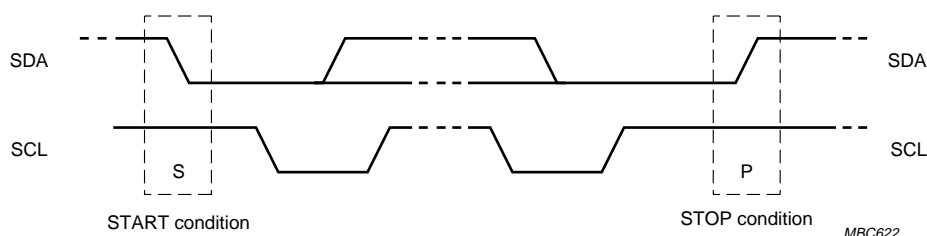

Fig.12 Definition of START and STOP conditions.
Both data and clock lines remain HIGH when the bus is not busy. A HIGH-to-LOW transition of the data line while the clock is HIGH is defined as the START condition (S). A LOW-to-HIGH transition of the data line while the clock is HIGH is defined as the STOP condition (P), (see Fig.12).